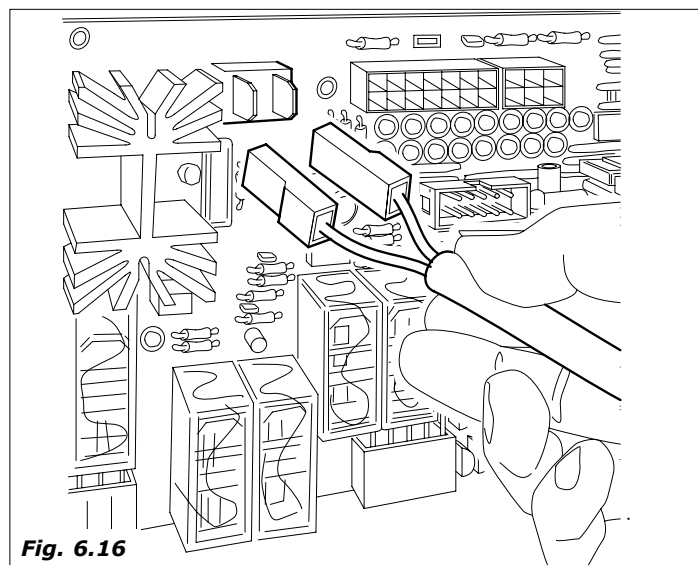

Fig. 6.16
- undertake the following operations: connect the resistance connector to the power card and wait for about ten minutes until the working temperature is reached (Fig. 6.16)